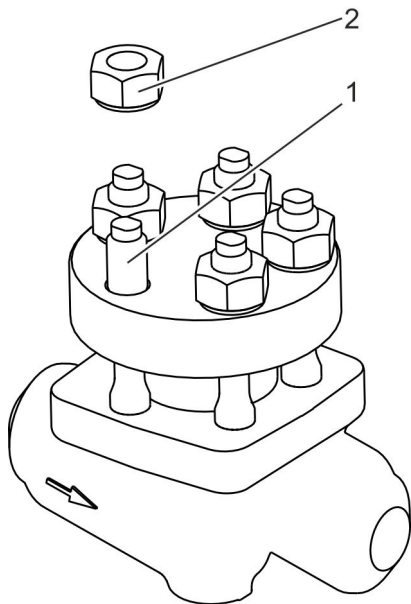

Fig. 15: Attaching the nuts
- 12.** Loosely screw the nuts (Fig. 15/2) onto the stud bolts (Fig. 15/1).